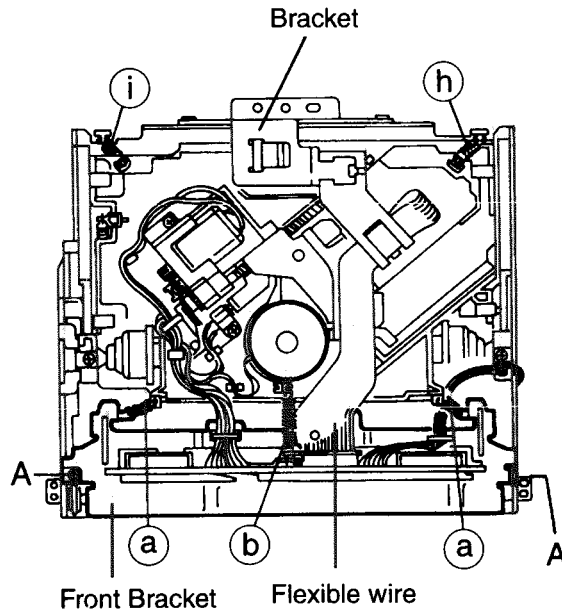
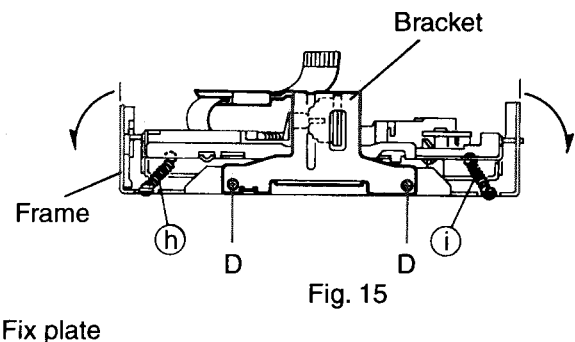
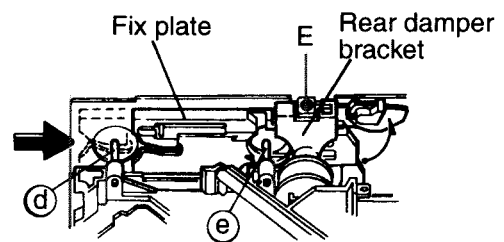
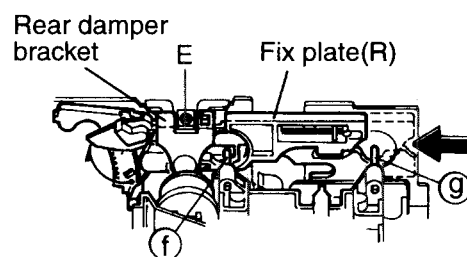

Fig. 9
Fig. 15
Fig. 16
Fig. 17
2. Remove the three springs (a) and (b) from behind the CD mechanism assembly (See Fig. 9).
3. Disconnect the flexible wire connected to the connector on the CD mechanism control P.C.board (See Fig. 9).
6. Remove the two screws A retaining the front bracket for fixing the CD mechanism control P.C. board (See Fig. 9).
1. Remove the two screws D retaining the bracket for fixing the damper (See Fig. 15)
2. When shifting the fix places on the right and left sides respectively to the arrow C direction, lower the entire CD mechanism. When the shafts (d, e, f and g) on both the right and left sides have been set free as shown in Fig. 16 and Fig. 17, then the assembly can be removed easily. Remove the two screws E retaining the rear damper bracket to make it easier to remove the damper from the rear damper bracket (See Fig. 9, Fig. 16 and Fig. 17).
3. Remove the two springs (h) and (i) as shown in Fig. 9 and Fig. 15.